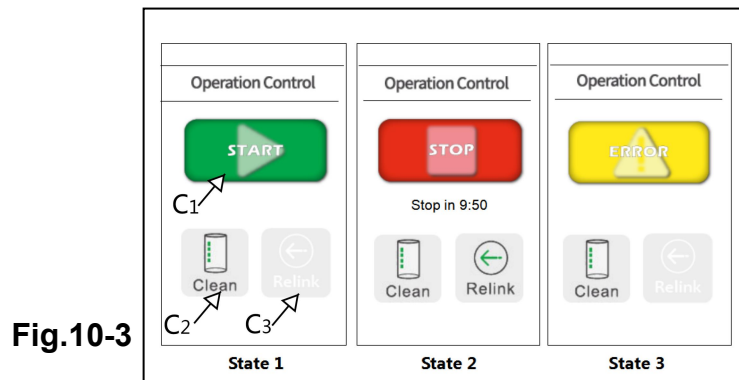

Fig.10-3
5.1.3 Operation and control area C (Fig. 10-3)